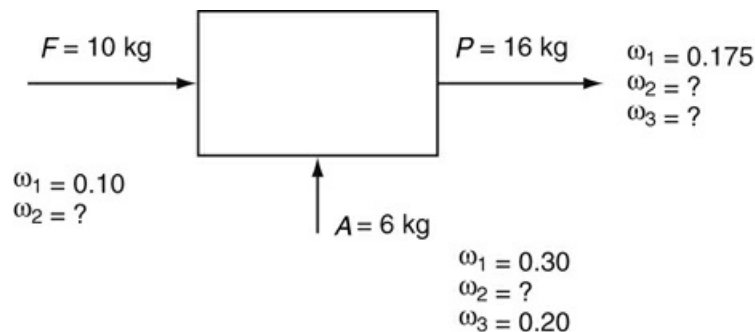

Figure P3.3.8
****3.3.8** In the steady-state process (with no reactions occurring) shown in Figure P3.3.8, you are asked to determine if a unique solution exists for the values of the variables. Does it? Show all calculations.